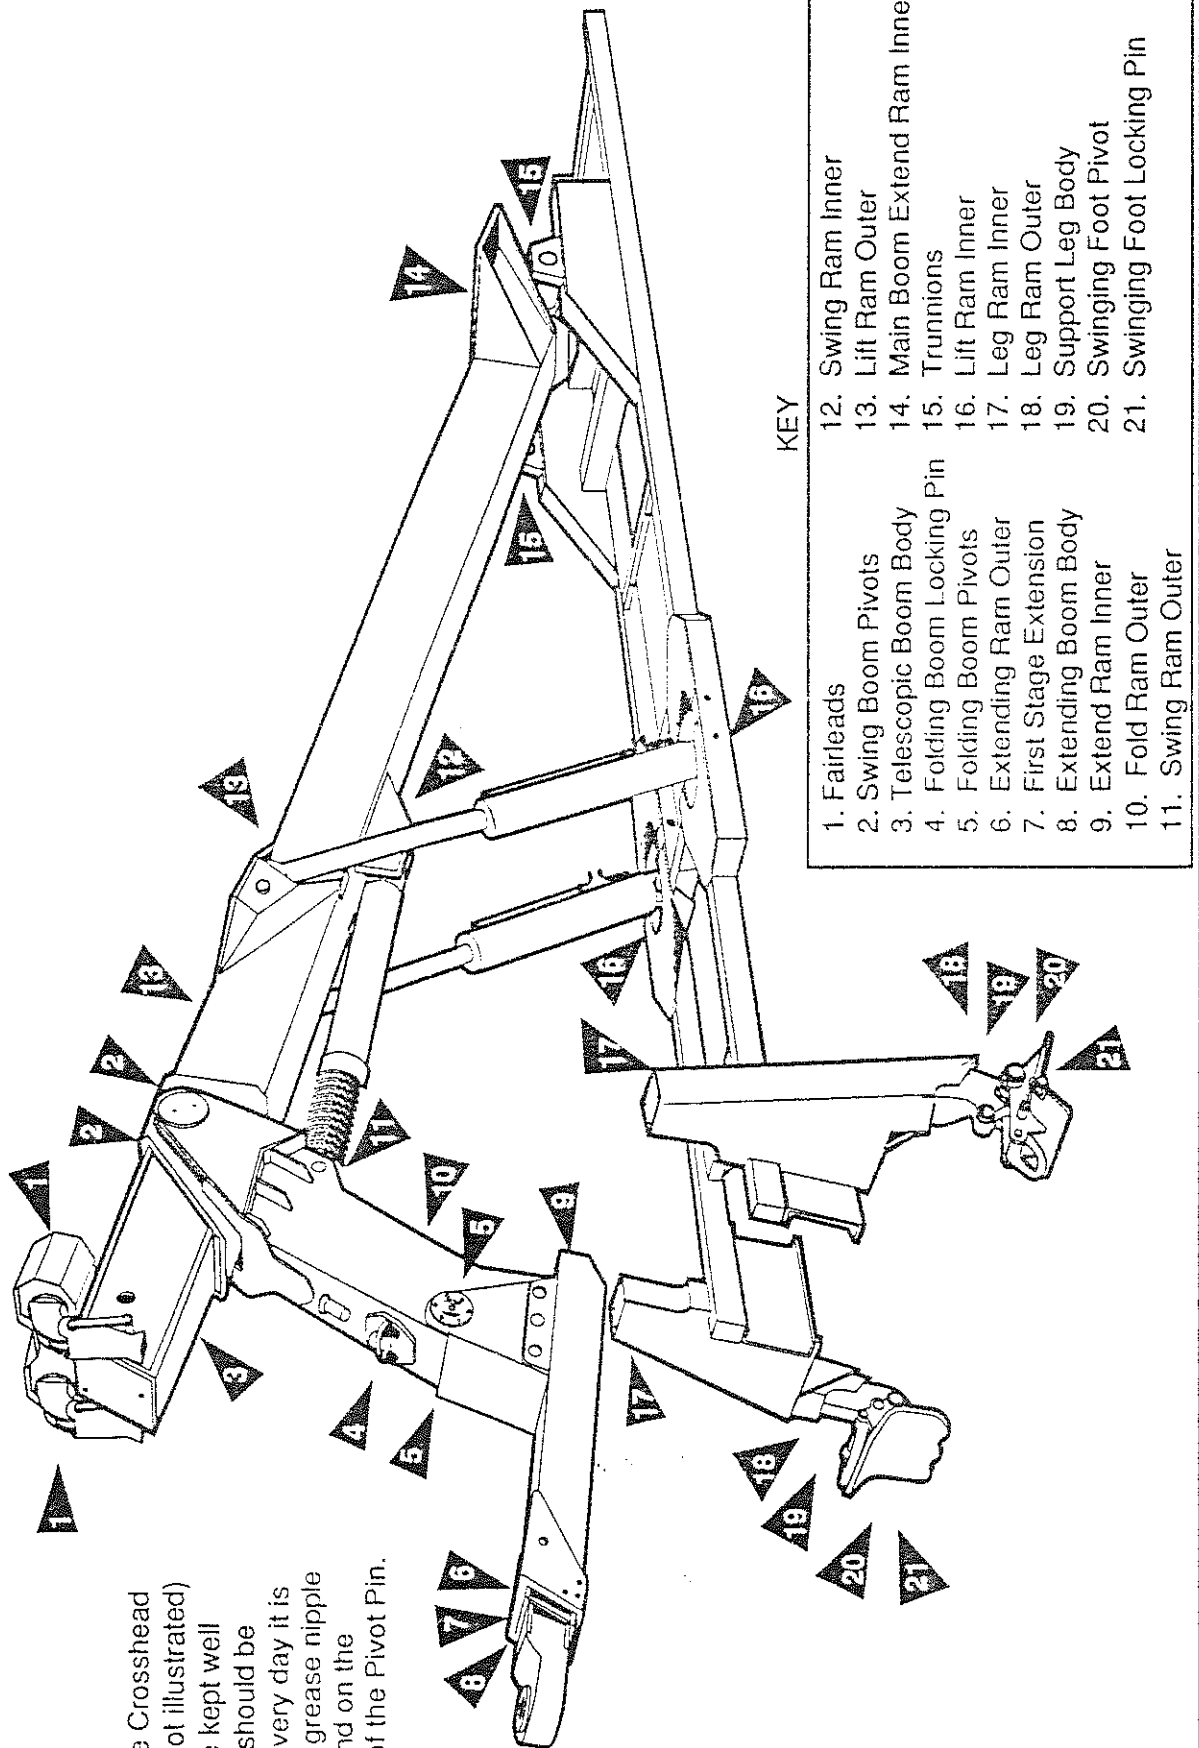

Figure 20 - Lubrication Diagram
- 4.3.1 Lubricate all round. See Figure 20 - Lubrication Chart.